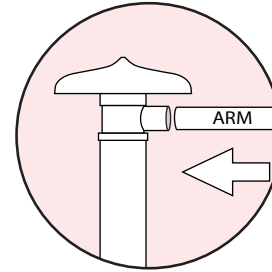
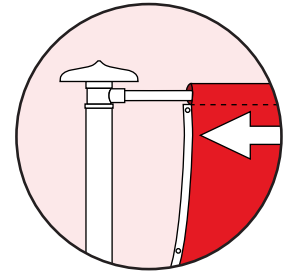

Fig 2a.
Fig 2b.
2. Push rotating arm into joint, ensure button clips into place (see fig 2a), slide top sleeve on flag over the arm. (see fig 2b)